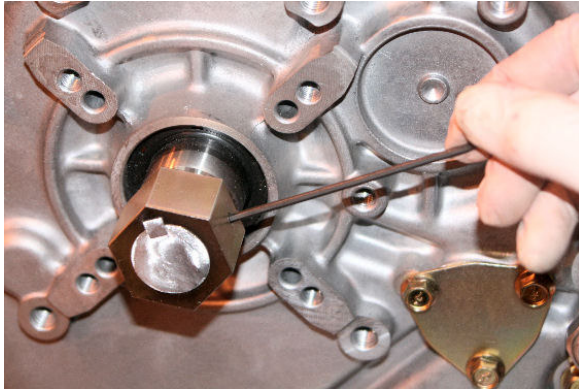

Fig 5-21 Coupling adaptor
4. Remove the pump coupling adaptor from the motor shaft. It is secured by a hex socket screw (Fig 5-21). A three-legged puller may be required.